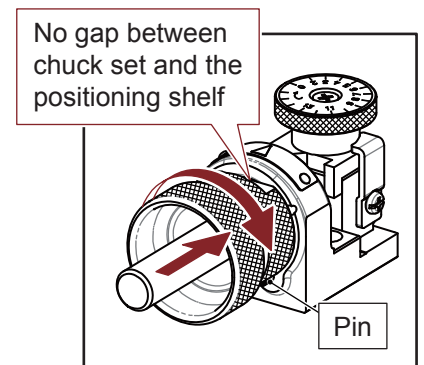

Fig. 4-5
3) Align slot of the clamping nut to the pin on the positioning shelf, then insert the chuck set into the positioning shelf and fit them with no gaps, then turn the chuck set clockwise until it stops by the pin. (Fig. 4-5)